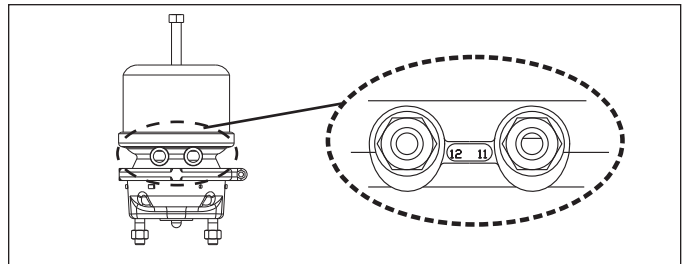

FIGURE 45 - PORT DESIGNATIONS
5.4.4 Exhaust the air from the brake chambers by using the dash-mounted air control valve. With all air pressure drained from the system, disconnect the air hoses from the brake chamber. While supporting the brake chamber in position, remove and discard the brake chamber mounting nuts (Figure 45, arrows marked "B"). Remove the brake chamber.